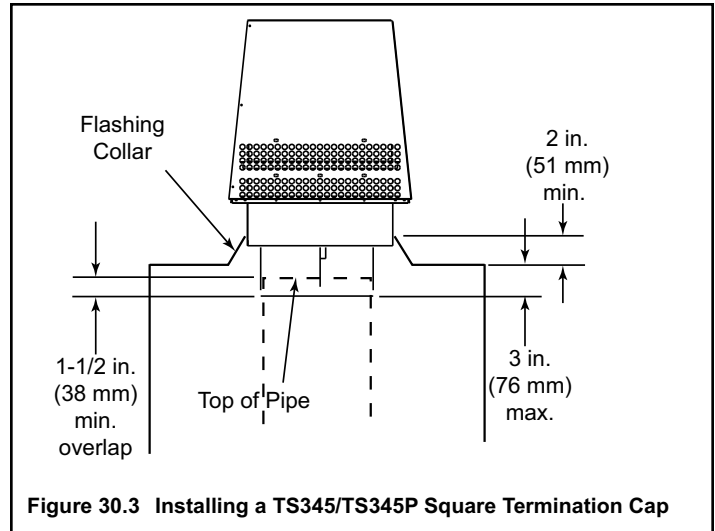

Figure 30.3 Installing a TS345/TS345P Square Termination Cap
- For installations utilizing a TS345/TS345P Square Termination Cap, the uppermost chimney section must not be more than 3 in. (76 mm) below the chase top. See Figure 30.3.